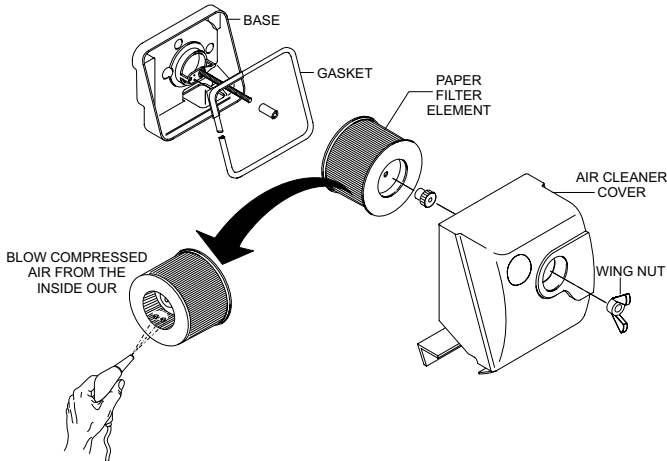

Figure 24. Engine Air Cleaner
This engine is equipped with a replaceable, high-density paper air cleaner element. See Figure 24 for air cleaner components.
1. Remove the air cleaner cover and high-density paper air cleaner element (Figure 24).